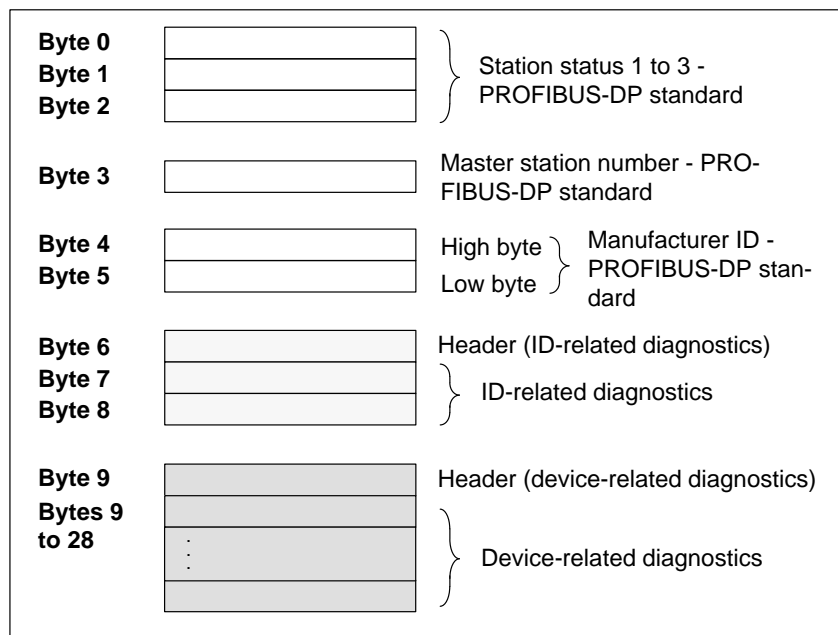

Figure 5-2 Structure of Slave Diagnostics for Analog ET 200B
**Introduction** ID-related diagnostics shows which module in which slot is defective. The header indicate the length of ID-related diagnostics. (see Figure 5-2, bytes 6 to 8)
**ID-related Diagnostics (Bytes 7, 8)** The ID-related diagnostics of analog ET 200B modules consists of two bytes (see Figure 5-2):